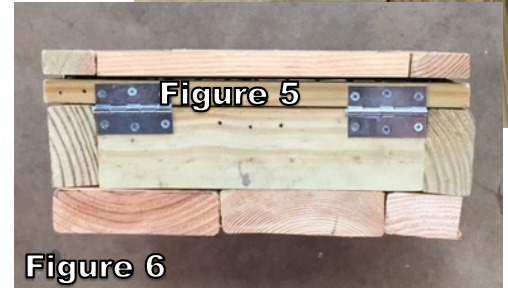

Figure 4
9. The base can be made using pretty much any wood cut to fit the bottom of the square frame (Figure 4).